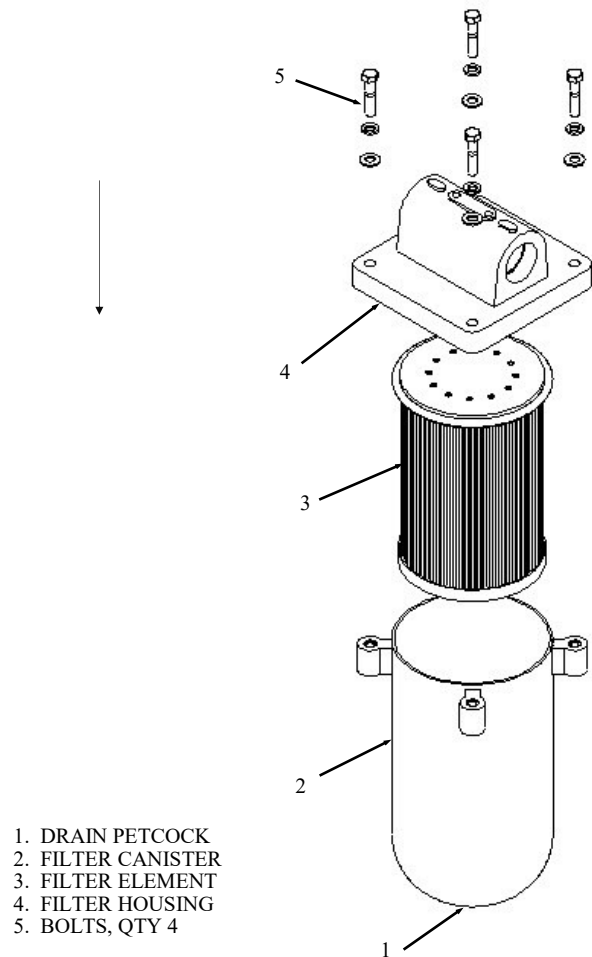

Figure 5-16. Fuel Filter
5.3.6.6.7 Fuel Filter Element. The fuel filter element should be replaced whenever fuel flow is restricted or at least once per year. The following steps describe how to replace the fuel filter. See Figure 5-16.